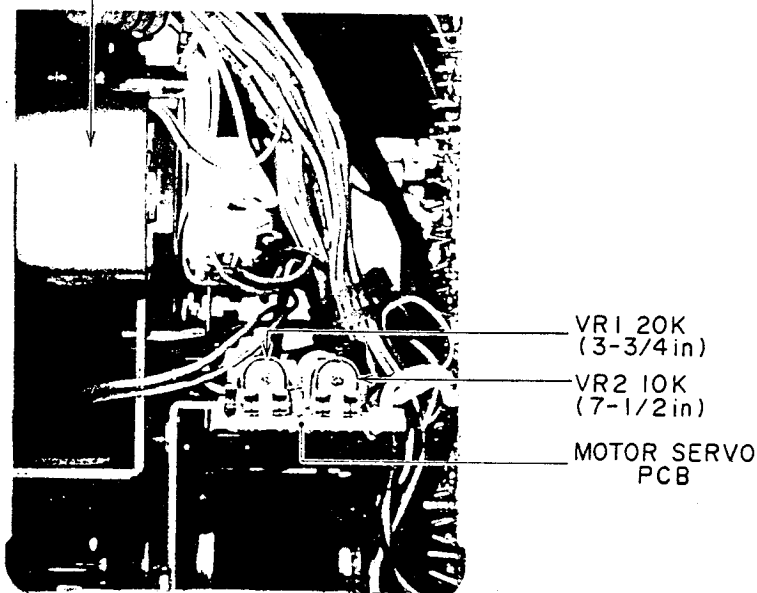

Fig. 37
6. TAPE SPEED ADJUSTMENT (Refer to Fig. 37)